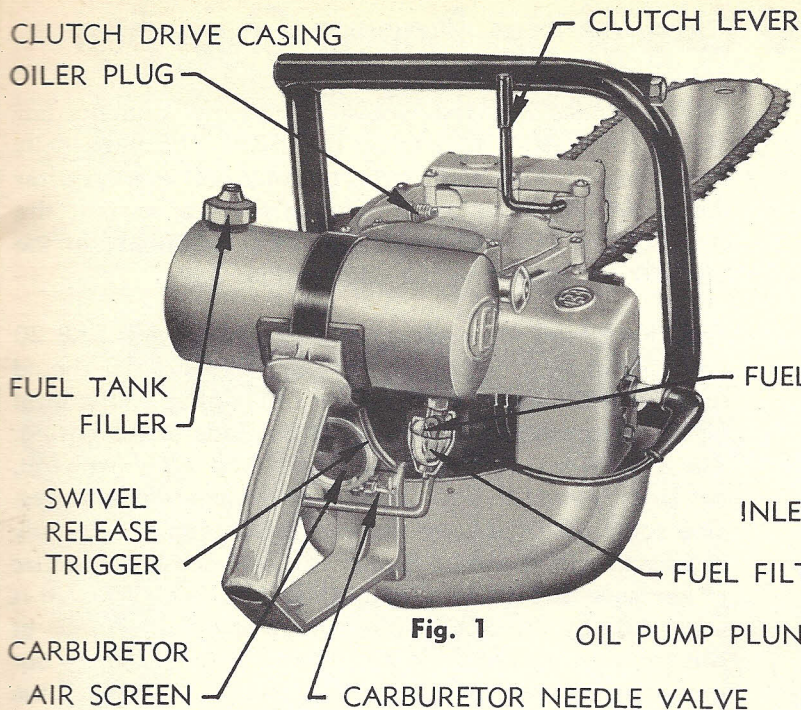
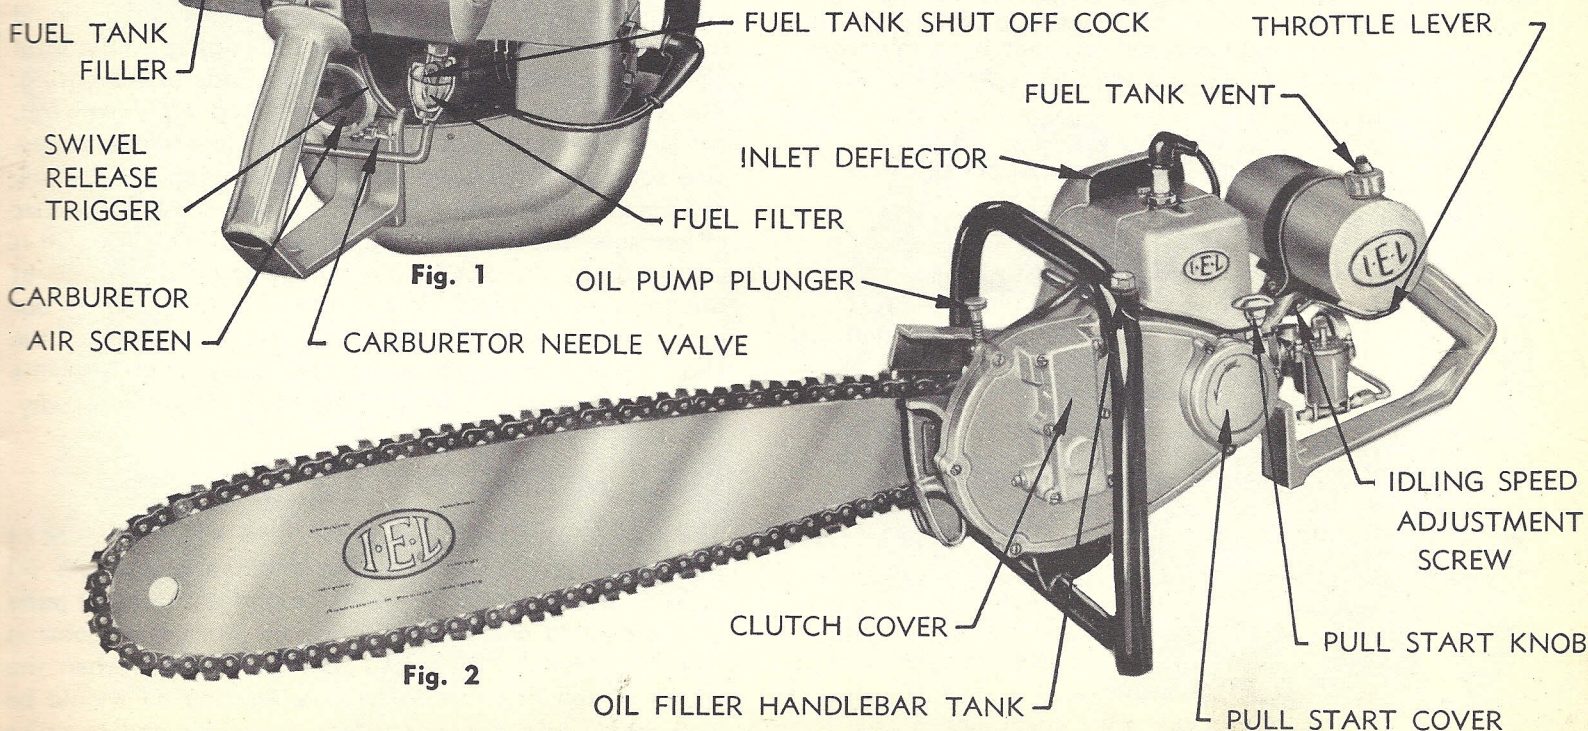

Fig. 1
Fig. 2
The clutch and drive casing must be filled with SAE 20 lubricating oil (in cold weather, SAE 20W or 10 should be used, if the motor is stiff when starting) up to the level of the filler plug (Fig. 1) found in the side of the casing. The handle-bar tank (Fig. 2) should be filled with oil, sufficiently fluid to flow easily at prevailing temperatures. The same oil as is used for the drive casing is usually satisfactory. If the wood is pitchy, a half-and-half mixture of kerosene and lubricating oil should be used. This oil is sucked up by the small finger-operated pump (Fig. 2) at the front of the machine and forced into the cutter bar groove in order to oil the cutting chain. As soon as the chain is started, some oil should be applied with the pump, and the chain should never be allowed to run dry.
The fuel tank (Fig. 1) should be filled with a mixture of high-grade gasoline (70 octane minimum) and SAE 60 or SAE 70 lubricating oil, in the proportions of **eight parts** of gasoline to **one** of lubricating oil when the motor is new. This can be decreased to 10/1 or 12/1 when the motor is well broken-in. The gasoline and oil should be well mixed in a separate, **clean** container and must be
1. Open the fuel tank shut-off cock. (Fig. 1.)
2. Open the fuel tank vent. (Fig. 2.)
3. Set the needle valve (Fig. 1) on the carburetor about 1-1/2 turns open.
5. Straighten the rear handle after about 20 seconds, and open the throttle (Fig. 2) about 1/4 to 1/3. Disengage the clutch.
2. Clean the carburetor air screen (Fig. 1) regularly.
3. Clean the fuel filter (Fig. 1) regularly.
The clutch adjustment can be reached by removing the rectangular cover (Fig. 2) on the side of the clutch housing. A slotted screw, held with a jam nut, will be found. This screw should be adjusted so that a slight amount of play is felt in the clutch lever before it starts to operate the clutch.
Remove the three screws holding the Pull-Start cover (Fig. 2) in place. Since this cover holds one end of the return spring, it will snap around when the screws are removed. Pull the cover off gently, and, if the spring does not come with it, insert a screw driver or flat piece of metal and ease the centre of the spring off the spindle.
The other idling speed adjustment (Fig. 2) sets the opening of the throttle in the idle position and is to be found just in front of the fuel tank in the aluminum handle. This screw also has a lock nut, and screwing downwards makes the motor run faster, upwards for slower.